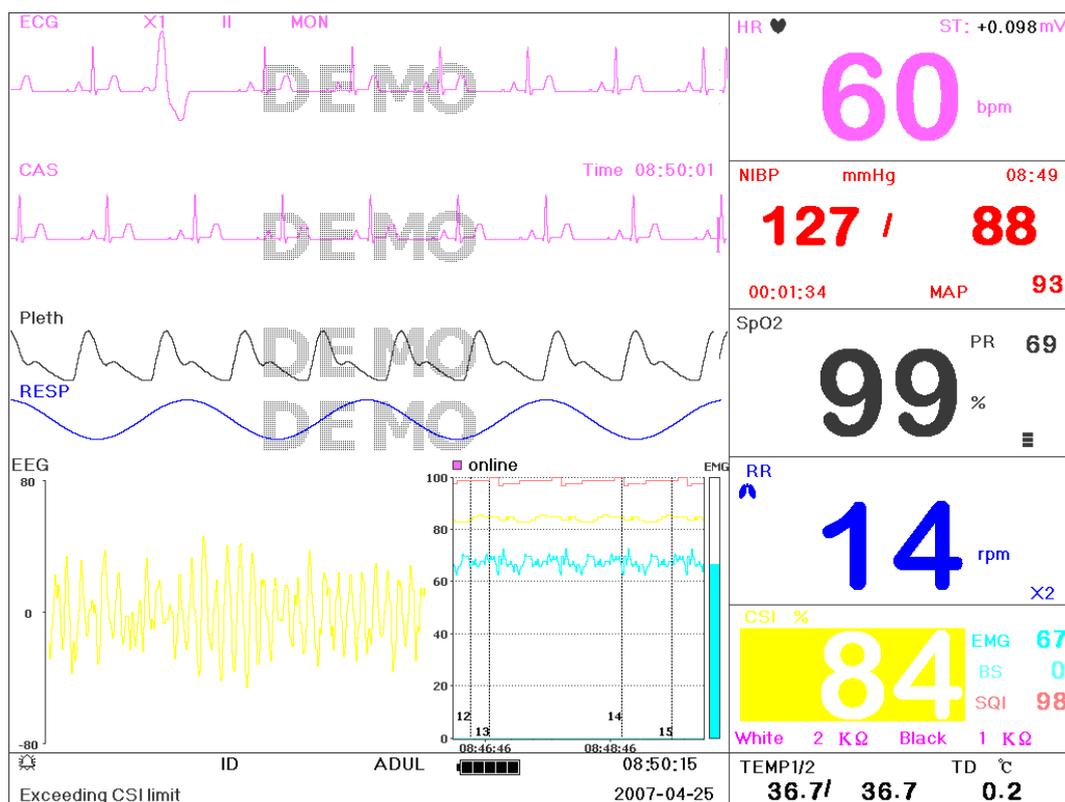
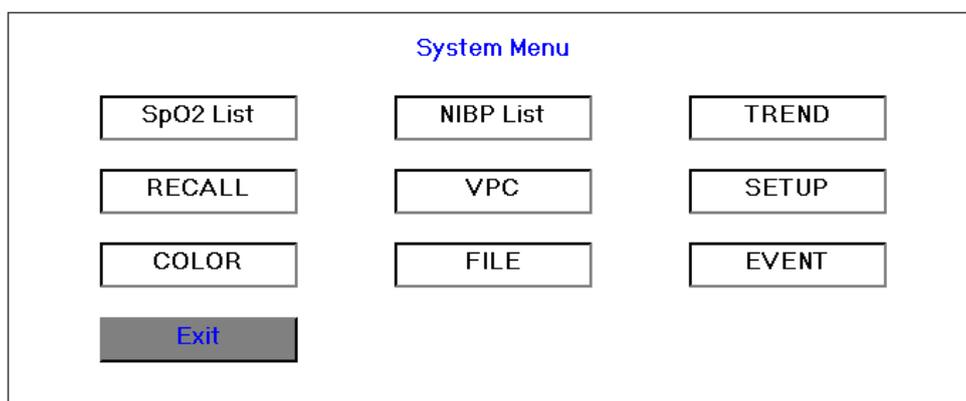

Figure 4.2 Main Screen
Figure 4.12 Mode Selection Screen
**Step 5:** If you have finished adjusting the date and time, press the knob and rotate the knob to move the cursor to “Save”, press it to save the settings. Then move the cursor to “Exit”, press it to exit the date and time setting screen, meanwhile enter into the main screen shown in Figure4.2.
The system is initialized and enters into Main Screen where monitoring and system operation are performed. (shown in Figure 4.2)
Press the Navigation Knob in the main screen as shown in Figure 4.2, the operating area shows the mode selection screen, as shown in Figure 4.12.